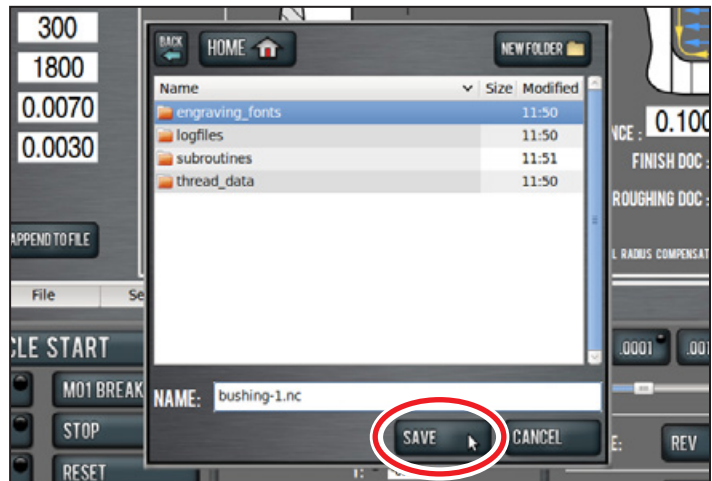
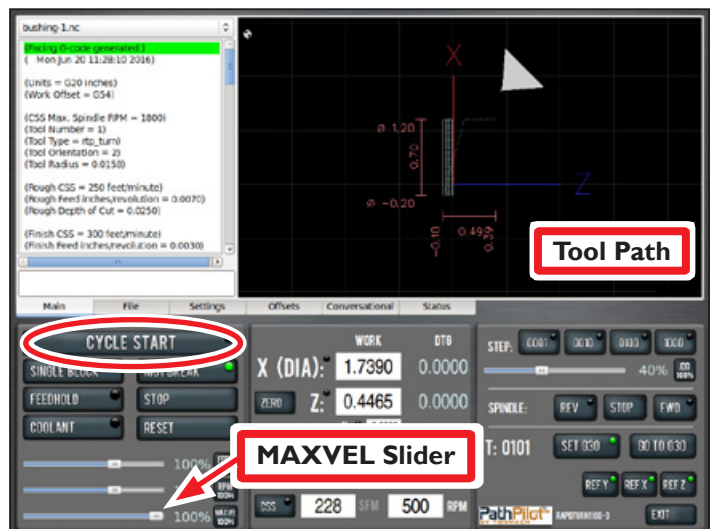

Figure 4.24
Figure 4.25
4. In dialog box, click *Save* (see **Figure 4.24**); file is saved and automatically loads into control, displaying tool path (see **Figure 4.25**).
5. Click and drag *MAXVEL Slider* (see **Figure 4.25**) to zero percent.
6. Click *Cycle Start* (see **Figure 4.25**). If current tool is not tool 1 and machine is configured for manual tool changes, *Cycle Start* LED may flash to request tool change. Change tool in quick change tool post; click *Cycle Start* again to confirm.